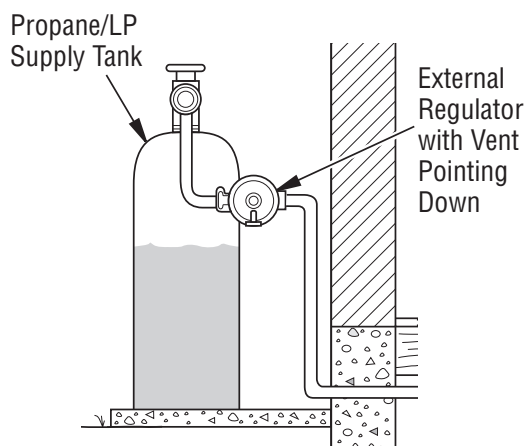

Figure 13 - External Regulator With Vent Pointing Down
* An equipment shutoff valve with 1/8" NPT tap is an acceptable alternative to test gauge connection. For propane/LP units, the installer must supply an external regulator. The external regulator will reduce incoming gas pressure. You must reduce incoming gas pressure to between 11" and 14" of water. If you do not reduce incoming gas pressure, appliance regulator damage could occur. Install external regulator with the vent pointing down as shown in **Figure 13**. Pointing the vent down protects it from freezing rain or sleet.